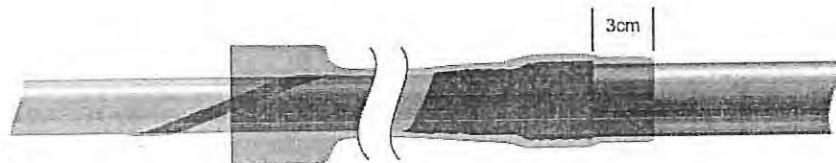

Figure 33.
13. Remove the plastic Mast Butt Adaptor section of the Terminal Base Assembly by unscrewing the M6 Phillips head screw on the side. Again, straighten the cable as much as possible and carefully slip the first 1.2m length of Heatshrink over the cable ensuring that the Semi-Conducting Tape is not effected, until the end of the Heatshrink tube covers and overlaps the Semi-Conductive Tape (over the Black PVC Outer Sheath) by 3cm. (Figure 33) Using a Gas torch or heat gun, shrink the lower end into the correct position and gradually work up towards the top of the Heatshrink.